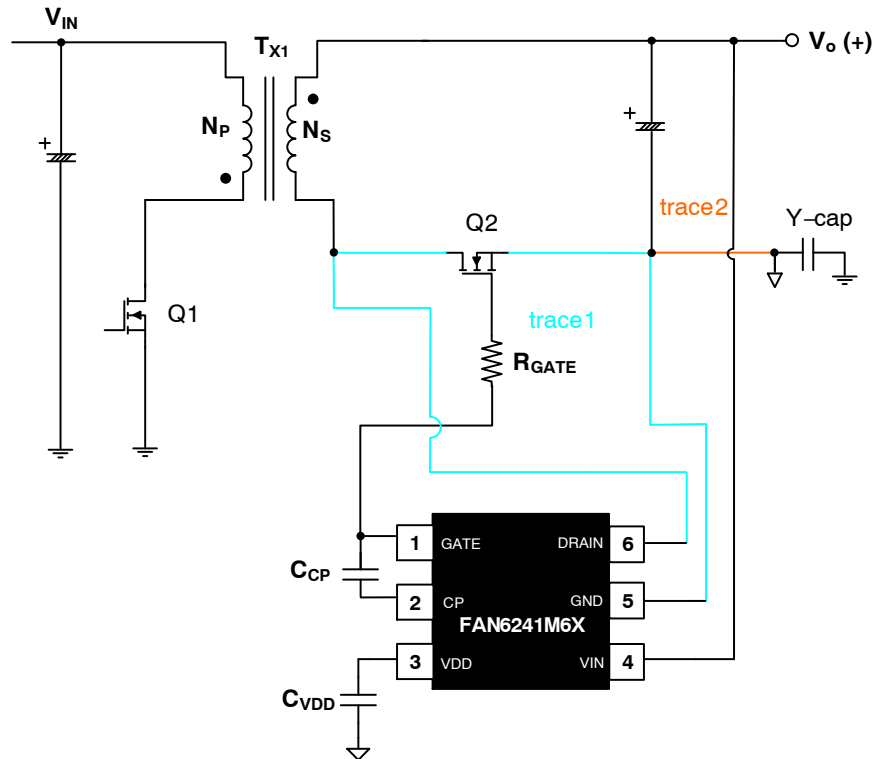

Figure 17. SR Layout Considerations of Low-Side System
- Better PCB layout improves and minimizes excessive EMI and prevents power supply from being disrupted during ESD/Surge test. Figure 17 shows the layout guidance for low-side system